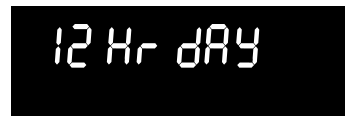

Fig. 4
2. Press self-clean to toggle between "12 Hr dAY" or "24 Hr dAY" display modes (See Figs. 4 & 5).	self clean